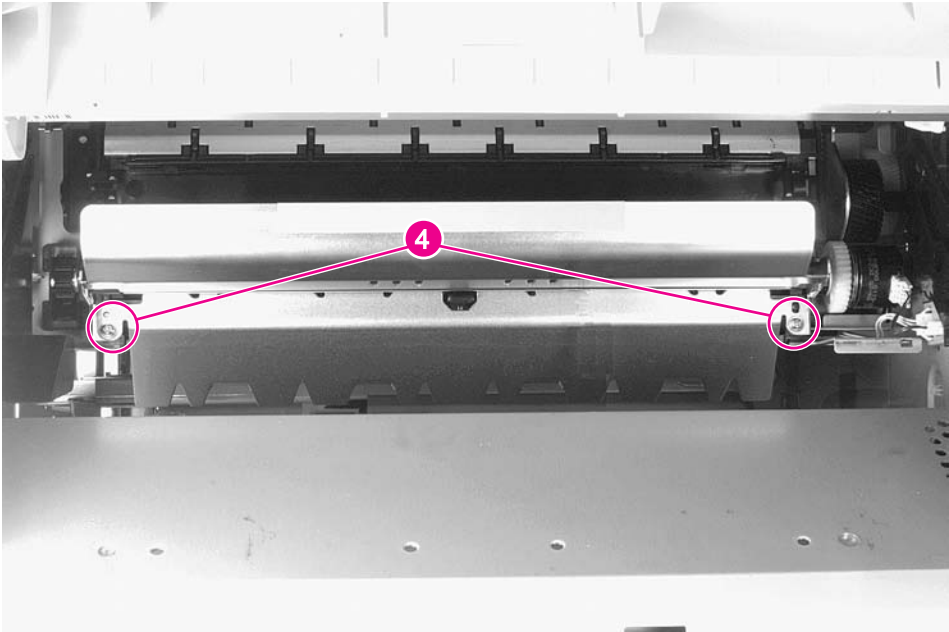

Figure 6-55 Registration Assembly (3 of 3)
- 6 Lift the registration guide and remove 2 screws at the front of the assembly (figure 6-55, callout 4).